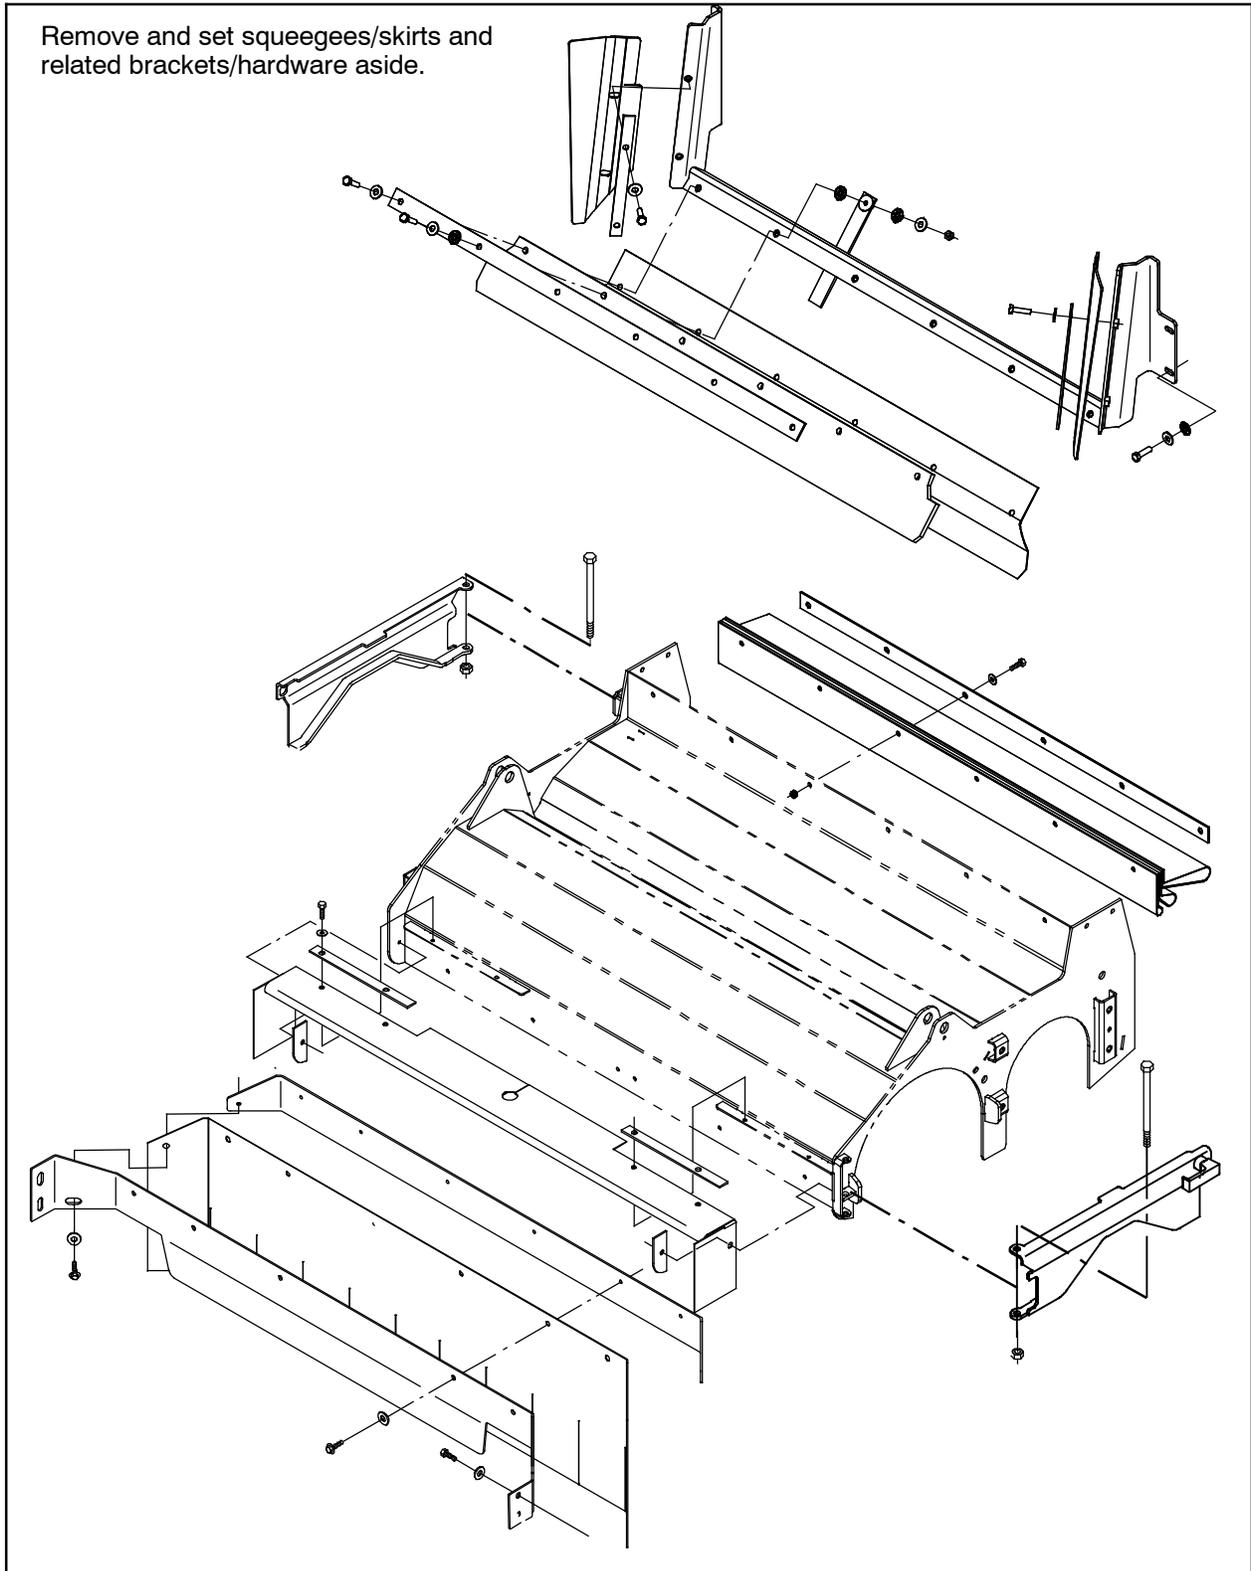
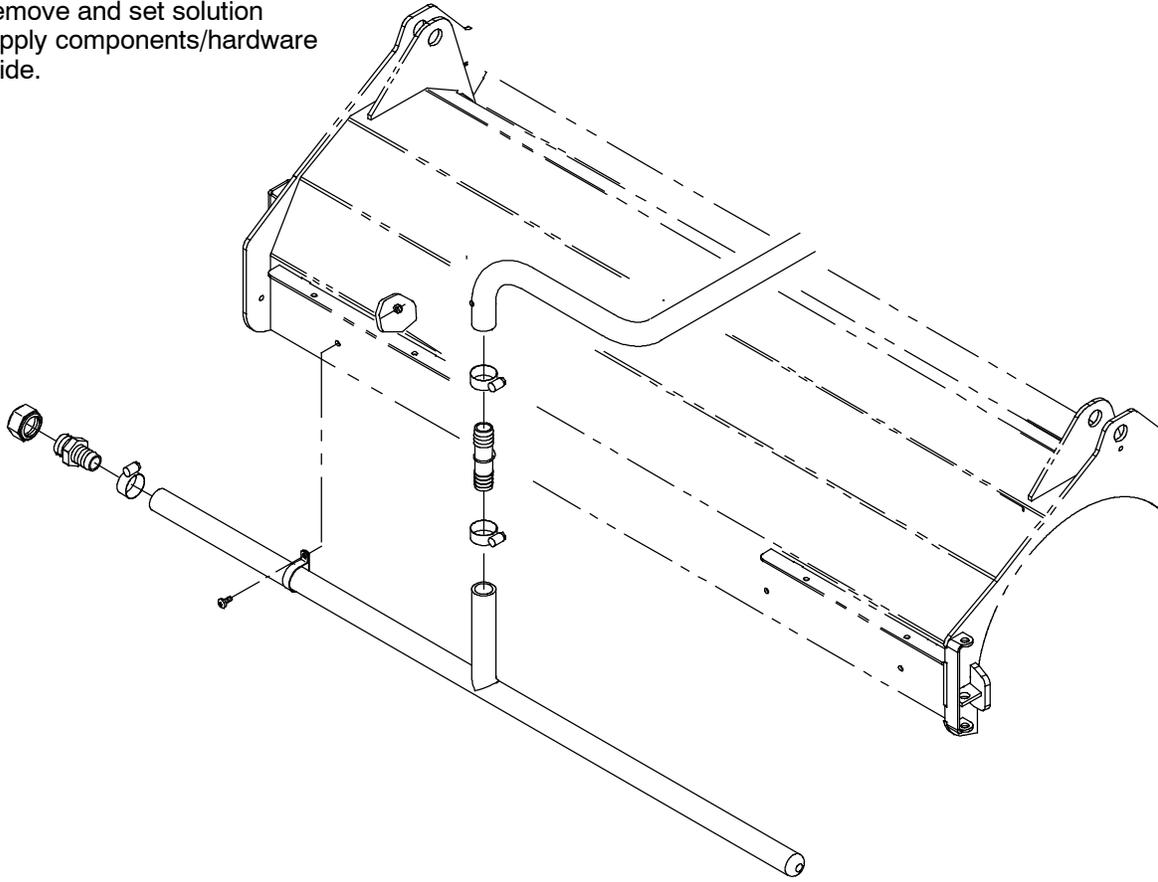

FIG. 6
FIG. 7
16. Remove all components (solution supply components, squeegees, skirts, etc...) from the main scrub head. Set all items removed from main scrub head aside. Discard the main scrub head. (Fig. 6 / Fig. 7)